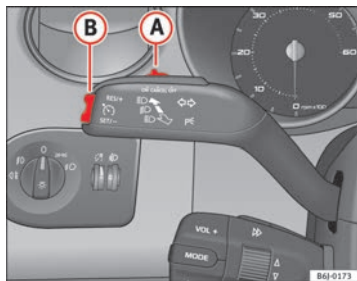

Fig. 109 Turn signal and main beam headlight lever: switch and rocker switch for the cruise control
- Press the lower part **SET** of the rocker switch ⇒ fig. 109 **B** once briefly when you have reached the speed you wish to set.